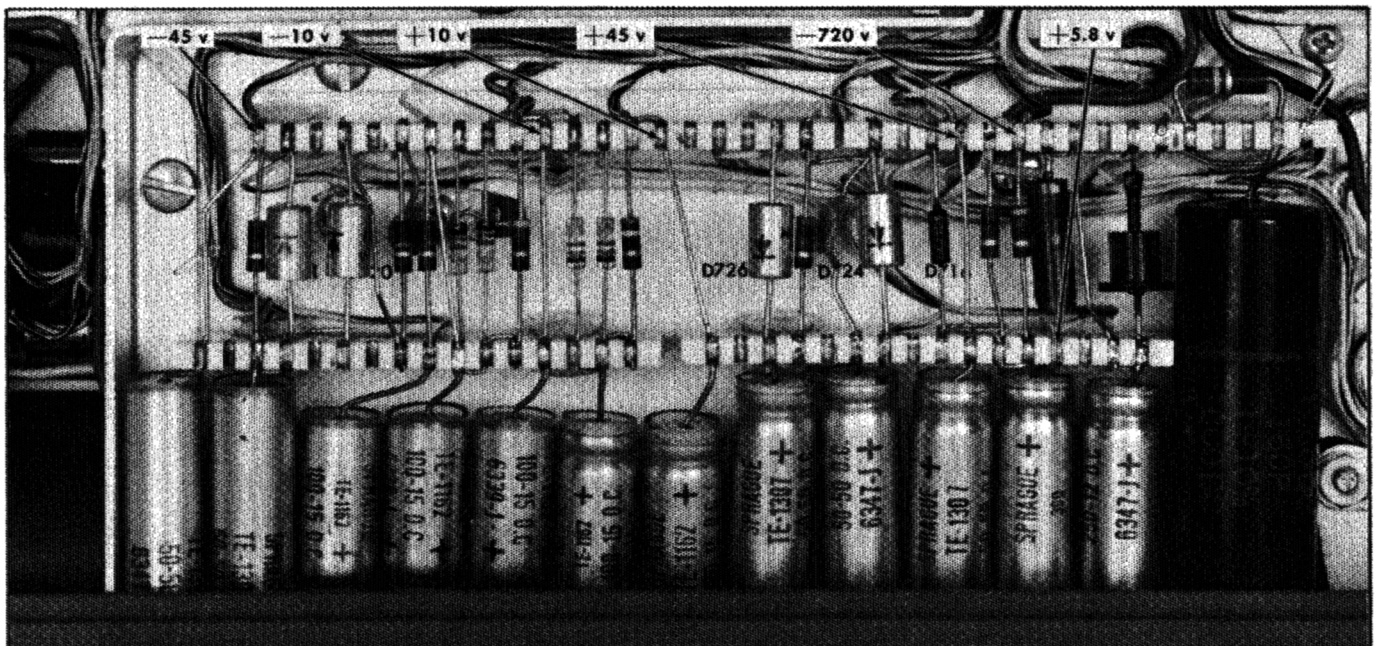

Fig. 6-2. Test point locations for checking the Converter output voltages (bottom right-side view).
- Using Table 6-1 as a guide, check the supply voltage and output voltage ripple of each of the supplies listed. Refer to Fig. 6-2 for location of all test points except 3.3 kv which can be found by referring to Fig. 5-2 or Fig. 6-6. Use the dc voltmeter to check the supply voltages. Use the test oscilloscope with a $1\times$ probe to check ripple voltage.